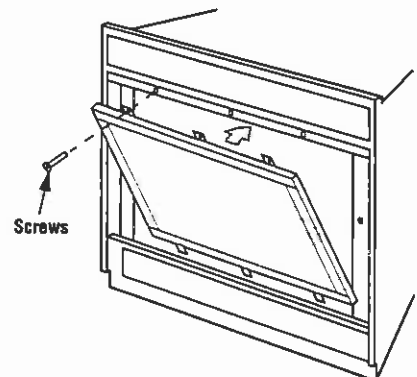

Figure 19
**Step 15. Installing the Hood Assembly**—Attach the hood assembly over the firebox opening with three (3) screws.
**Step 16. Installing the Screen Assembly**—Position the screen assembly in front of the firebox opening, with the joint in the gasket down (Figure 19). Locate the three (3) tabs at the bottom edge of the frame into the three (3) brackets at the base of the fireplace front opening. Lean the frame back towards the fireplace. Install the three (3)  $\frac{1}{4}$ "-20 x 1" Phillips pan head screws removed previously and tighten to secure.